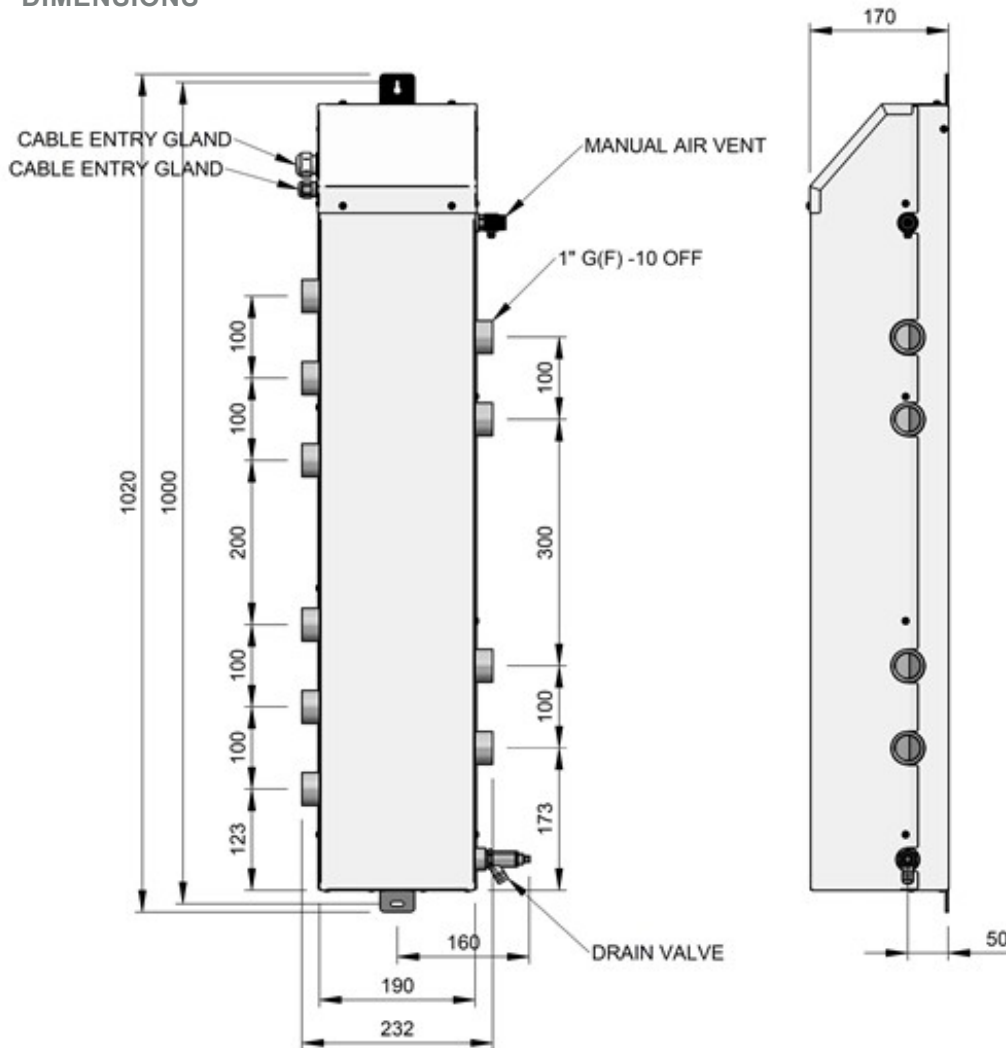

Figure 2-1: Grant Volumiser/Low Loss Header dimensions
The unit **MUST** be installed vertically, with the immersion heater at the top, as shown in Figure 2-1.
1. Using a suitable thread sealant, fit the 3/8" x 1/4" reducing bush into the 3/8" socket at the top of the right-hand side of the volumiser/header and then fit the 3/8" manual air vent into the reducing socket. Refer to Figure 2-1. Position the air vent such that the outlet is pointing downwards.
2. Again, using a suitable thread sealant, fit the drain cock into the 1/2" socket at the bottom of the right-hand side of the header/volumiser. Refer to Figure 2-1. Position the drain cock such that the outlet is facing downwards.